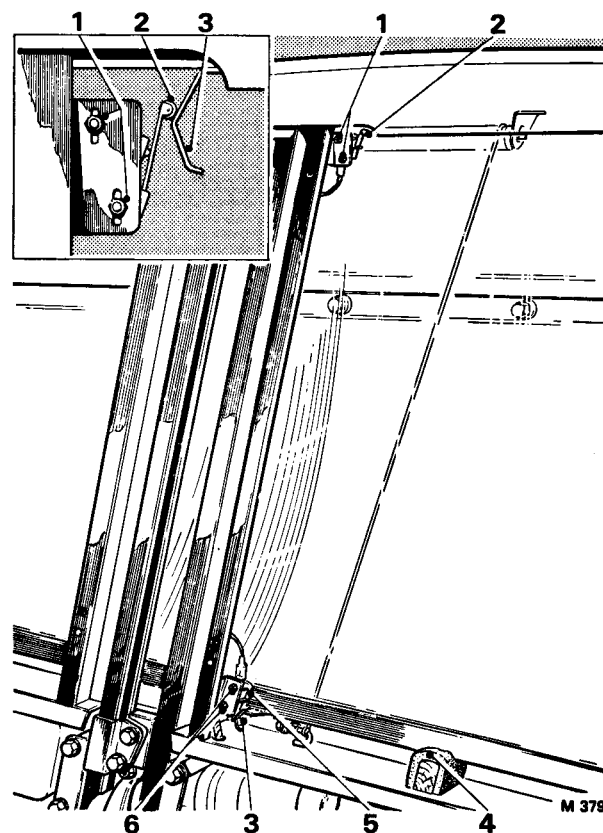

FIG. S65 DIVISION GLASS STOP SWITCHES
12. Before the side cover panels are fitted to the division, set the glass travel stop switches (see Fig. S65) by slackening the switch securing screws and adjusting the position of the switch on its elongated holes as follows.